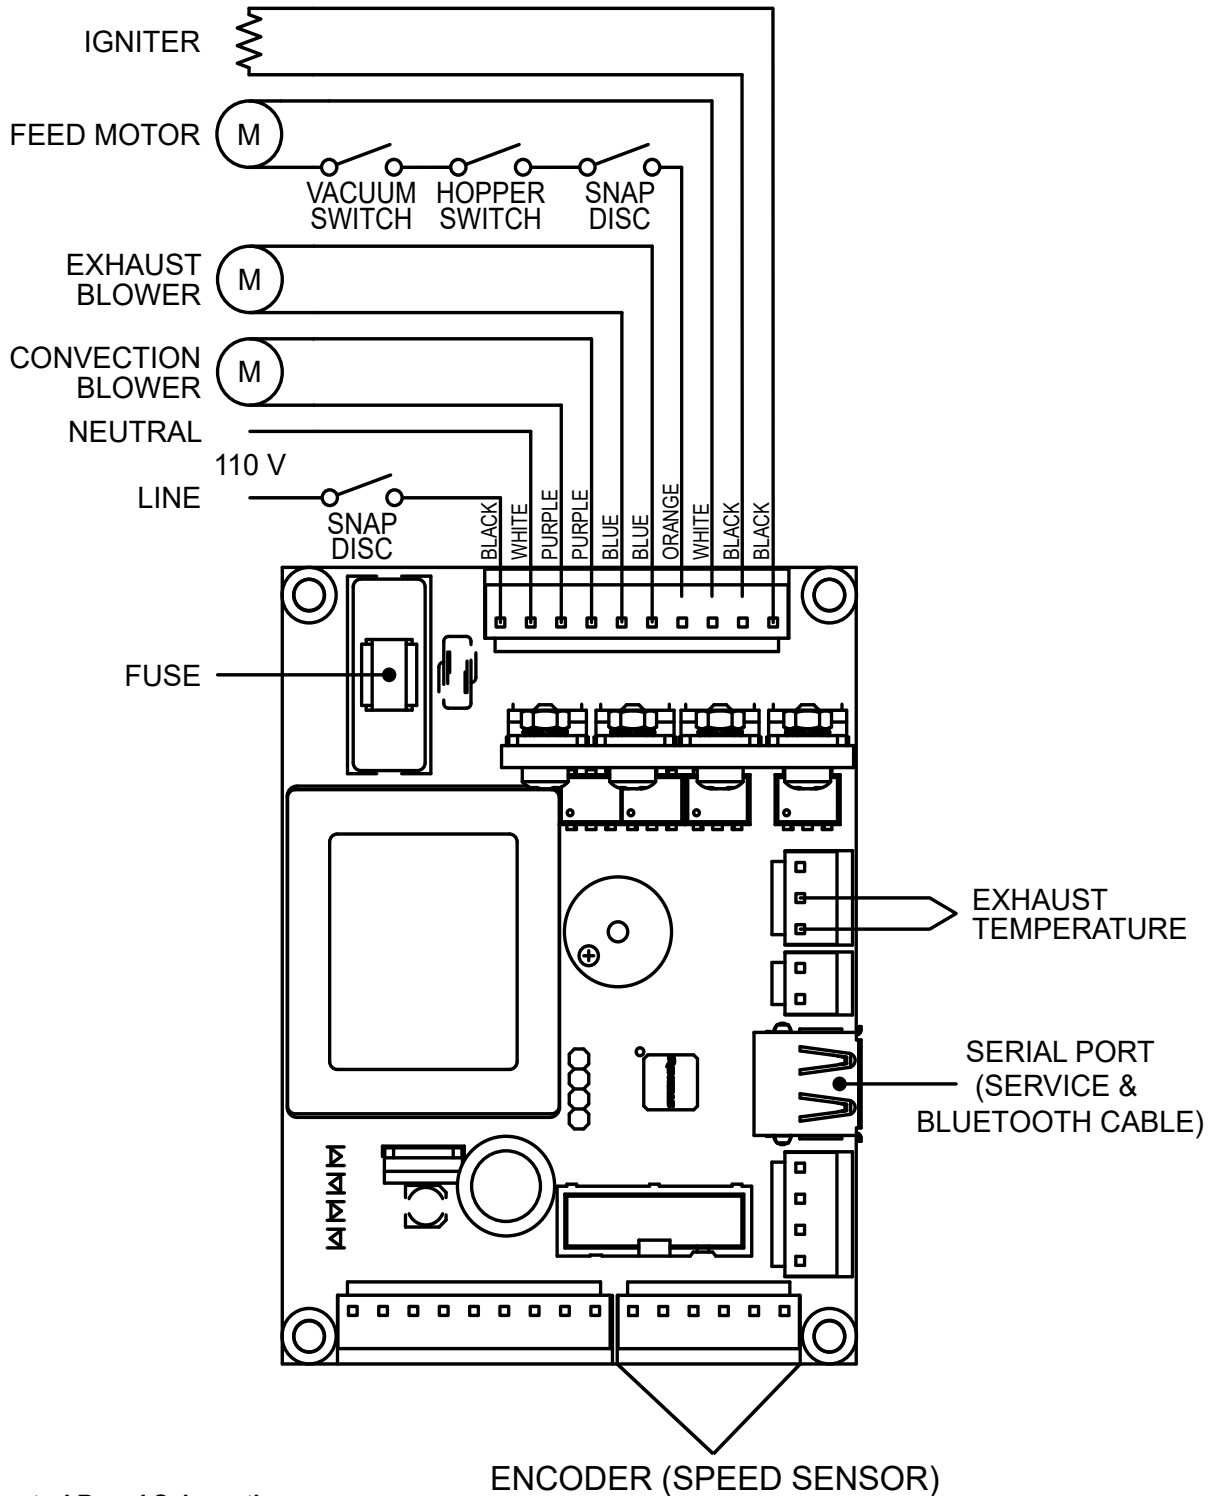

Figure 26.1 - Control Board Schematic
14. Wiring Schematic for Control Board (Figure 26.1)